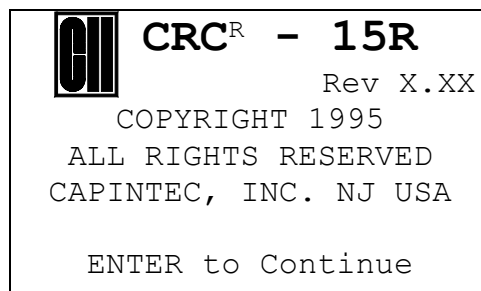

Figure 4-4
6. The unit should now display the CRC®-15R start up screen (see Figure 4-4)